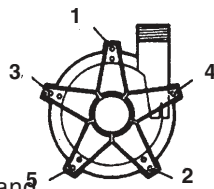

Figure 2
- Align mounting holes and install 5 Phillips pan head screws and hex nuts. Hand tighten screws to 30 in/lbs of torque using pattern shown in Figure 2.